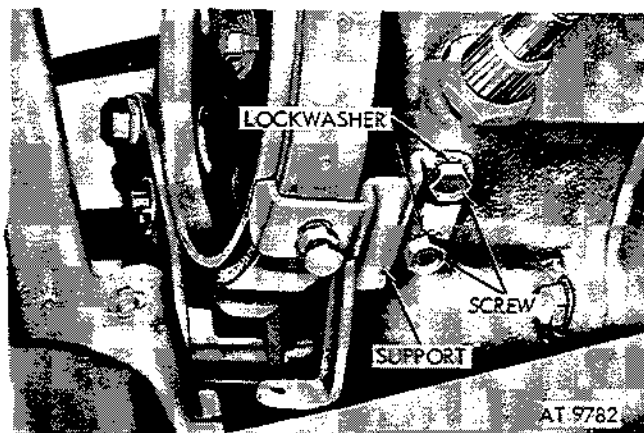

Figure 2-359. Remove Band-aligning screw support assembly from transfer.
(3) Remove two screw and lockwasher assemblies securing band-aligning screw support assembly to transfer (fig. 2-359).